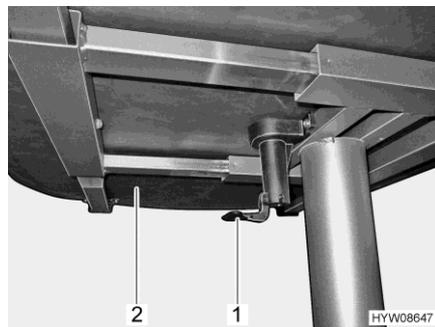

Fig. 133 Lever for moving the table top
- Pull or press down the lever (Fig. 133,1).
- Move the table top (Fig. 133,2) to the desired position.